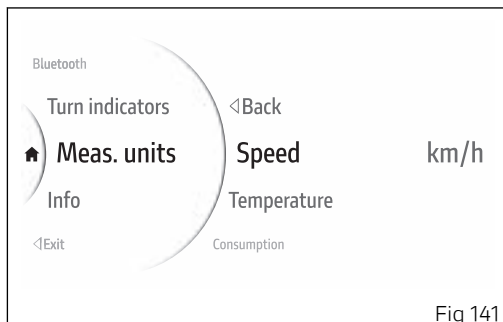

Fig 141
- Use buttons (1) and (2) from the Interactive Menu to select the "Setting menu" item and press ENTER (3).
- Select the "Measurement Units" item and press ENTER (3).
- Select the "Speed" item and press ENTER (3) (Fig 141).